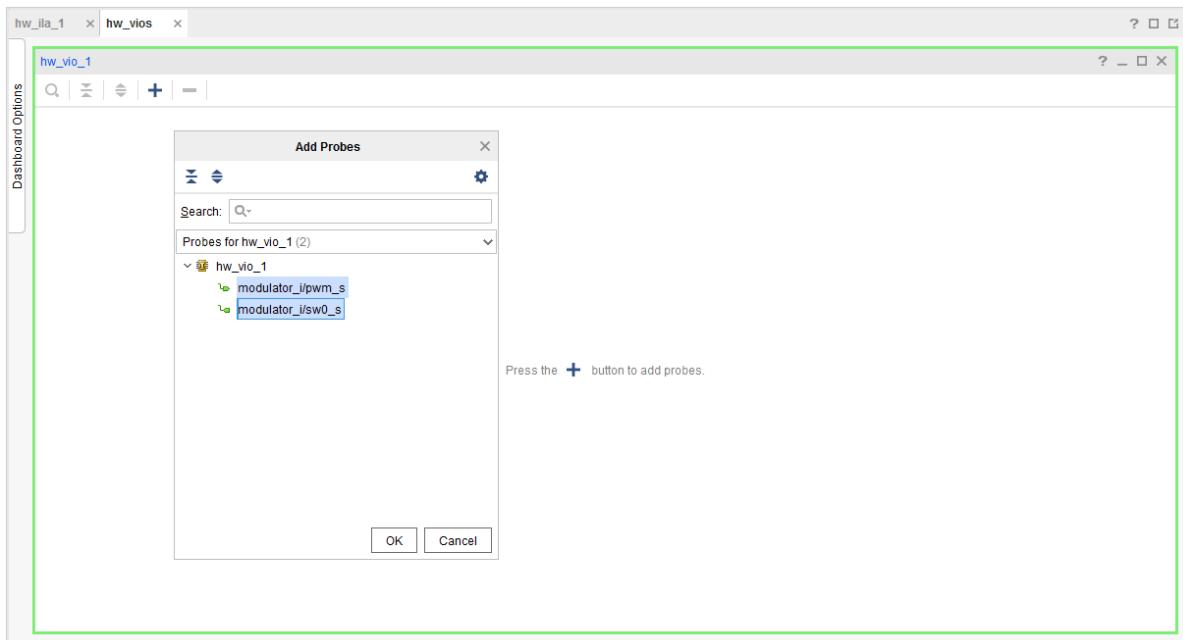

Figure 11.35: Add Probes to the VIO window
2. In the **Add Probes** window select both **pwm_s** and **sw0_s** probes and click **OK**, see Figure 11.35.